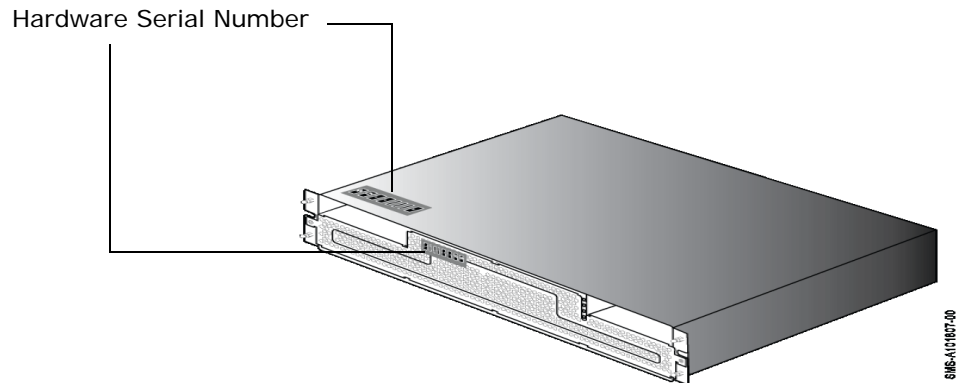

Figure 4-2: Locating the Serial Number
- Verify that the serial number shown in the **Serial No.** column matches the one on your array (see Figure 4-2 on page 4-3).
4. If you received an email about the failure or used SNMP to detect the failure, check that the hardware serial number in the email/SNMP matches the one on your Hitachi Simple Modular Storage 100 (see Figure 4-2 on page 4-3).